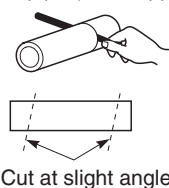

Fig. 3-155
- (5) Measure the thickness of the wall from the inside edge to the outside edge and cut the PVC pipe at a slight angle 15/64" shorter than the thickness of the wall. (Fig. 3-155)